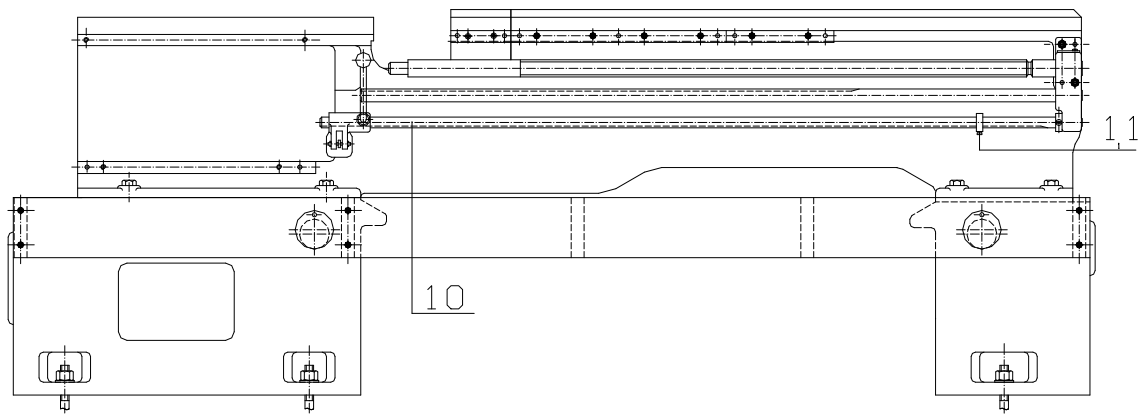

Fig. 25 Mechanism of limit touch-stop
- The trigonal oil filter set on the rear of headstock should be once washed with kerosene. For the washing method, refer to Fig.25 of "Maintenance" of the